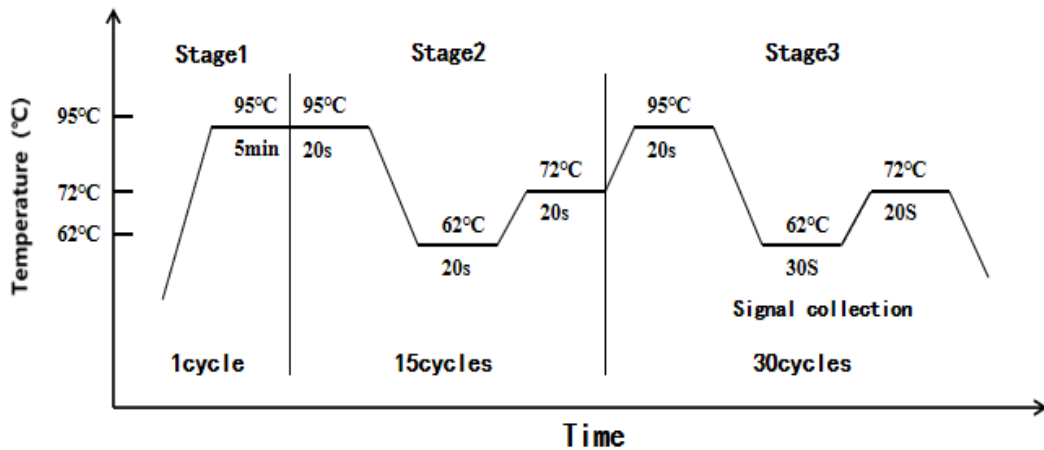

Figure 1. PCR Amplification Procedure
c) The operators set and run the amplification program as shown in Figure 1.